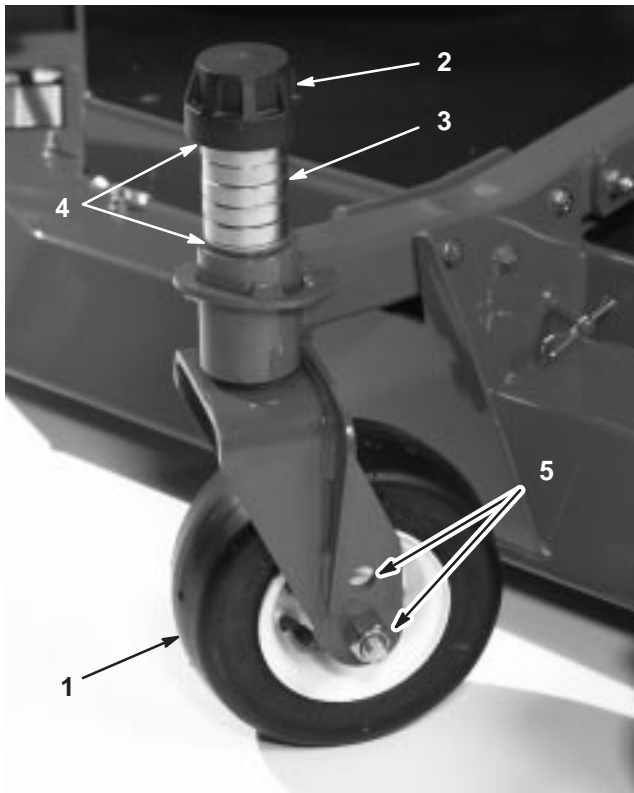

Figure 10
3. Remove the tensioning cap from the spindle shaft (Fig. 10) and slide the spindle out of the castor arm. Put the shims (1/8 inch) onto the spindle shaft as they were originally installed. These shims are required to achieve a level across the entire width of the cutting unit. Slide